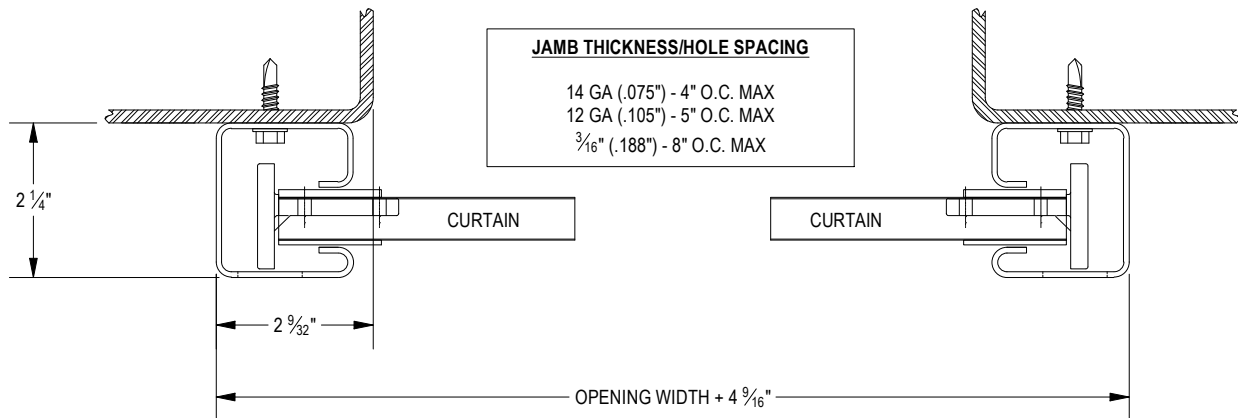

FIGURE 9: STEEL JAMBS
- **STEEL JAMBS:** $\frac{1}{4}$ " - 14 X 1". SELF DRILLING SCREW. See Page 9 Figure 9.